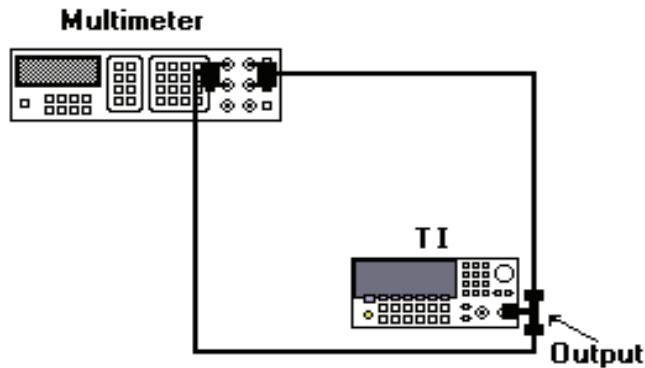

Figure 2. Output impedance adjustment hook-up.
- (6) Set the multimeter to display 5 ½ digits and dc volts measurement.
- (7) With **Setup # 6** highlighted press the **BEGIN** key then using the numerical keypad, adjust the displayed **Meas'd Voltage** to match the multimeter dc volt indication, then press the **ENTER VALUE** key.
- (8) Disconnect cable from the rear panel **Modulation In** and with **Setup # 7** highlighted press the **BEGIN** key.
- (9) Set the multimeter to measure offset-compensated, four-wire ohms, with 100 NPLC integration. Connect equipment as shown in figure 2.